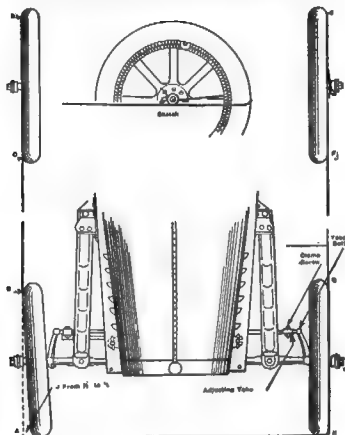

Fig. 34—Front wheel alignment.
2. Pass the cord between the SPOKE, toward the REAR and around the tire, across the face of the wheel at the height of the HUB. (Sketch 1, Fig. 34.)
3. Pass the cord completely around the FRONT of the car across the faces of each of the REAR wheels at the height of the HUB, and tie the end around the tire at the rear wheel. (Fig. 34.)